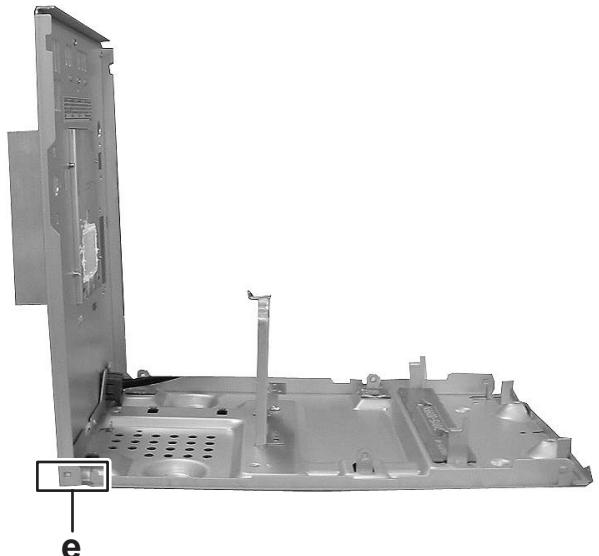

Fig.12
- (2) Disengage the two hooks **e** then remove the rear panel. (See Fig.12)